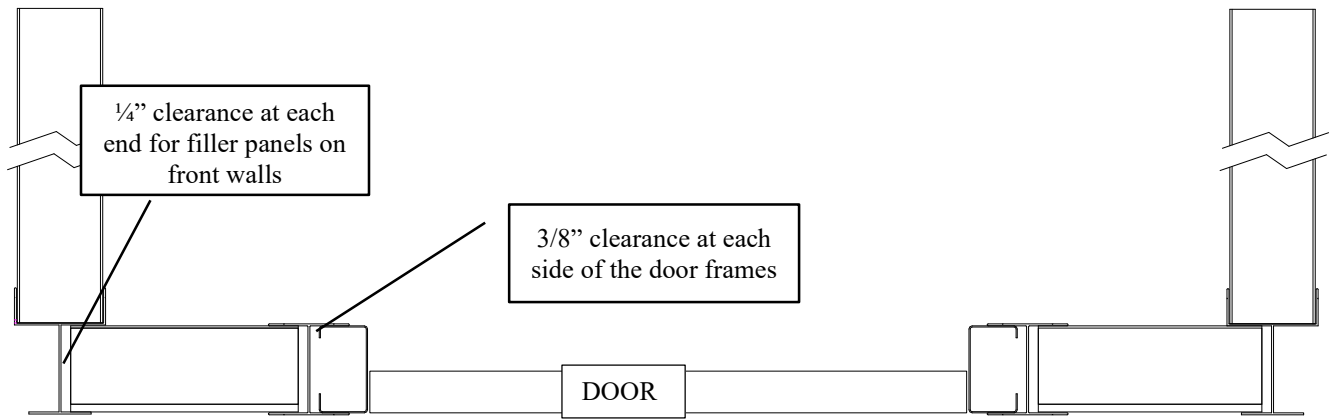

Figure 34
19. Using a level and a tape measure ensure that the “D” channels are vertical and that the door is centered between them. Note: there is clearance allowed for adjustment in your system. See figure 34 for the clearances. Use this as a guide to move extrusions to their correct positions before fastening.